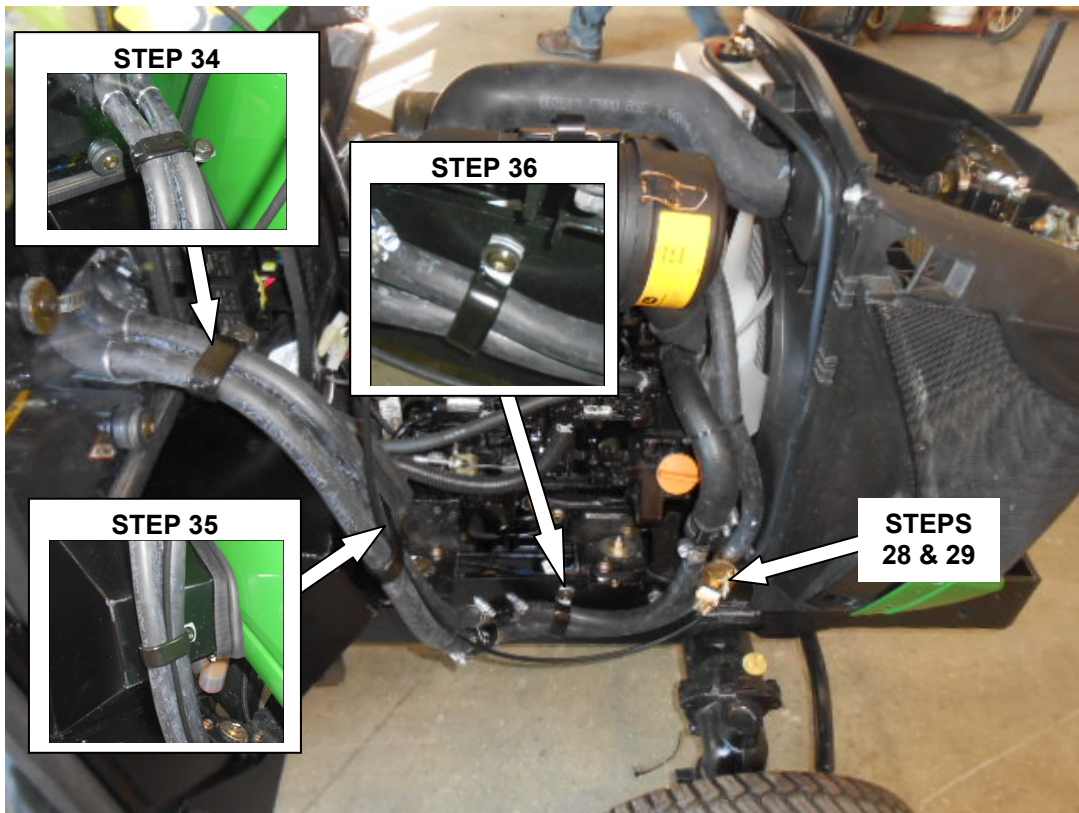

Figure 6
28. Install push/pull cable (2) from inside of RH front window (1). Route loop end of cable to shut-off valve (12) (**Figure 6**). Secure with hardware supplied with push/pull cable.
29. Connect loop end of push/pull cable (2) to shut-off valve (12) and retain cable using hardware supplied with valve (**Figure 6**).
34. Measure 4 inches from front window and secure heater hoses together using **(Figure 6)**;
- (1) 1/4" hex flange nut (29)
35. Secure heater hoses and push/pull cable to front of RH pedal pocket. A 1/4" hole will need to be drilled into the pedal pocket panel as shown in **(Figure 6)**, if hole is not present. Secure using;
36. Secure heater hoses to frame location as shown in **(Figure 6)**. Use existing hole already in the frame. Secure to frame using;